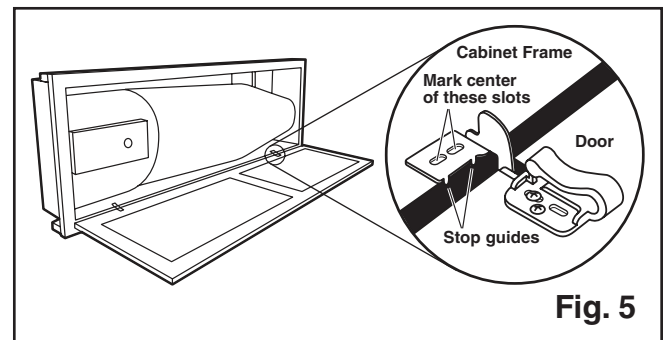

Fig. 5
6. Mark and drill pilot holes in cabinet frame for door hinges (Fig. 5)